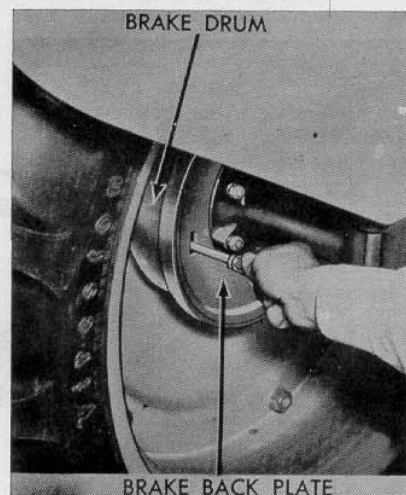

Fig. FO73—Clearance adjuster Bendix brake on model 8N.
92. Jack up rear wheels, remove adjusting screw cover and turn notched adjuster screw counter-clockwise, until wheel no longer can be turned by hand. See Fig. FO73. Then back off adjuster until only a slight drag is felt. Adjust left brake clevis to equalize brake pedals.